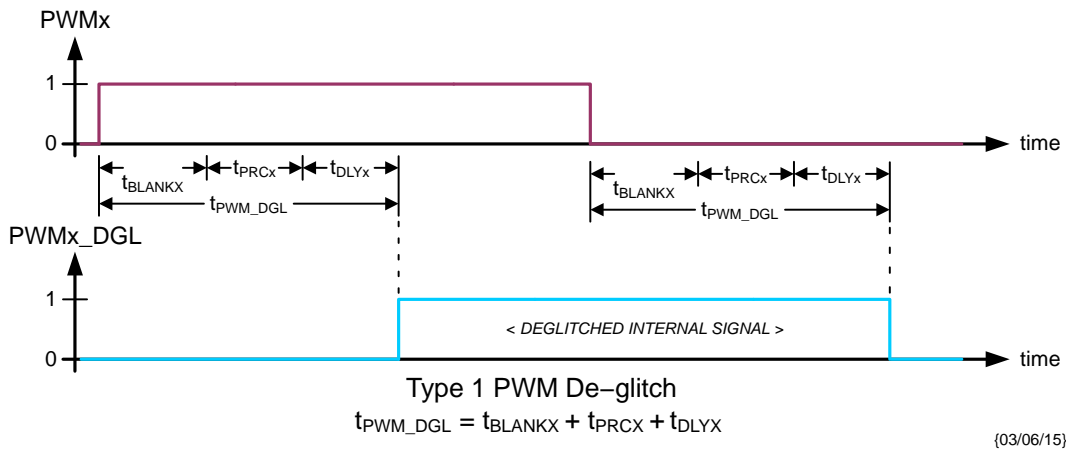
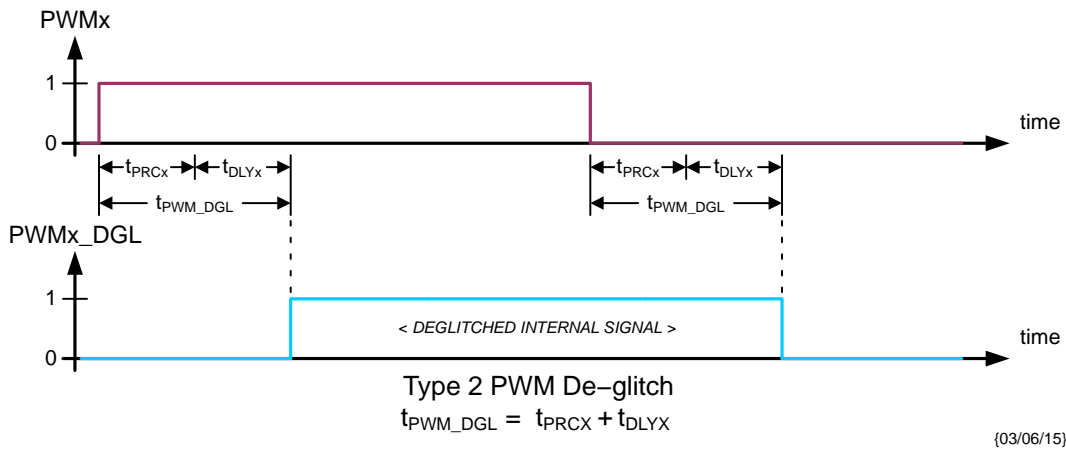
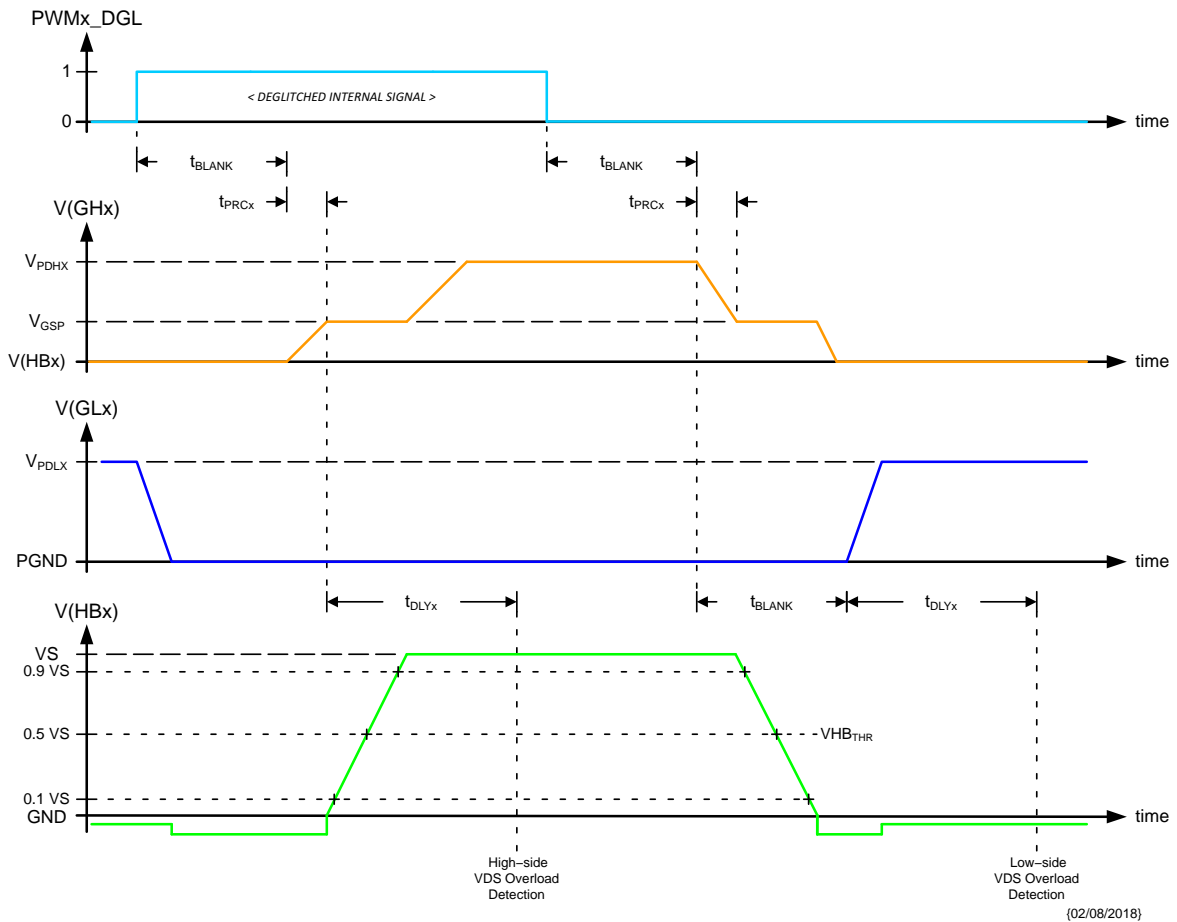

Figure 10. Type 1 PWMx Input De-glitch – CR14.DGLx = 0
Figure 11. Type 2 PWMx Input De-glitch – CR14.DGLx = 1
Figure 12. HBx Output Switching in Half-Bridge Configuration
When multiple PWM_x inputs are needed to be active, the scheduled PWM signals should be offset in time to avoid degradation of the VDS overload detection due to crosstalk (see § *Overload Protection*). The minimum offset should be based on the t_{PWM_DGL} times appropriate for the respective channels (see § *Switching Behavior of Half-bridge Drivers*, Figure 10 and Figure 11).
- adaptive PWM input de-glitch construction when in half-bridge configuration is selected by DGLx[6:0] bits (see Figure 10, Figure 11, Table 21 and Table 22).
In order to not overload the charge pump circuit in case of loss of VS or in case of a disconnected security switch, the steady state output current of the high-side gate drivers is limited to I_{GHX_SS} after $t_{TIMEOUT}$ (see $I(GHx)$ in Figure 12 and § *Electrical Characteristics: Half-Bridge Pre-Driver Outputs*).
When operating in PWM mode, type 1 de-glitch is selected when CR14.DGLx = 0 (see Figure 10) and the adapted time is given by:
Type 2 de-glitch is selected when CR14.DGLx = 1 (see Figure 11) and the adapted time is given by:
When operating in PWM mode, the timing of the gate drivers is according to Figure 12.
- the $PWMx_DGL$ resulting from the channel's operating configuration (see § *Switching Behavior of Half-bridge Drivers*, Figure 10 and Figure 11);
The appropriate latch is set (after the adapted t_{PWM_DGL} – see Figure 10 and Figure 11) at the start of the switch activation (see V(HBx) in Figure 12). In the case of the high-side MOS, the delay time t_{DLYX} is started at the end of the pre-charge time (t_{PRCX}). In the case of the low-side MOS, the delay time t_{DLYX} is started concurrent with the GLx turn-on current (see I(GLx) in Figure 11). At the end of time t_{DLYX} the switching node voltage is compared with the appropriate VDS_{THR_R} or VDS_{THR_F} overload detection threshold (see § *Electrical Characteristics: Half-Bridge Diagnostics*).